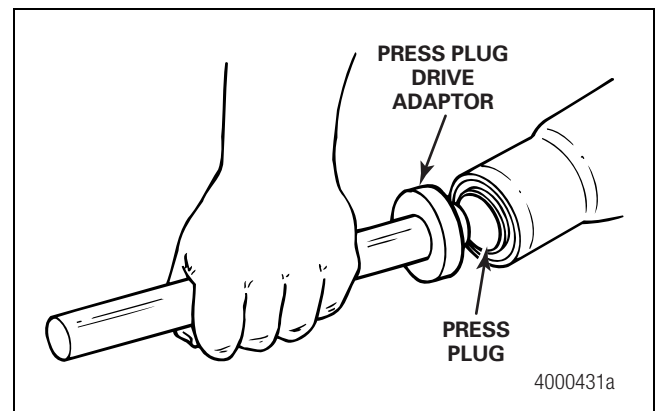

Figure 17
- Insert the press plug drive adaptor into the press plug. Figure 17.